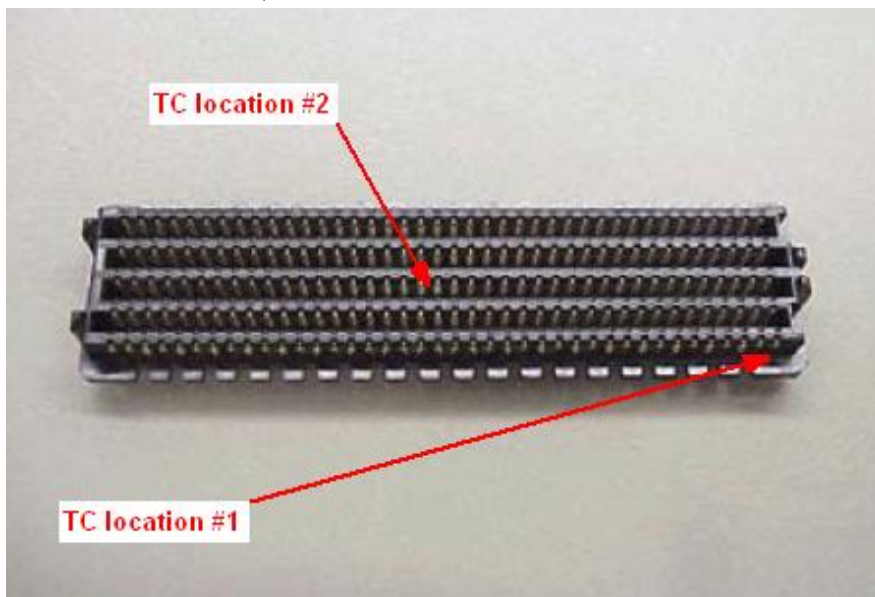

Fig. 6. Top side reference of thermocouple locations for reflow profiling. 做回流条件时热电偶放置参考位置。
- The importance of properly profiling the fully populated printed circuit assembly cannot be overstated. The reflow process that forms the solder joint is sometimes overshadowed by other processes but is critical to ensuring the solder charge reaches proper reflow conditions. Certain components can be sensitive to time and temperature, so both variables must be controlled and a thermal profile must be performed prior to processing or production. Thermocouples should be placed as close to the solder charge as possible (**underneath the part**) in the center and on the outside edge (see **Fig. 6**). 不管怎样强调正确测量回流条件的重要性都不算过份。有时回流过程重要性被其它制程所影响, 但是保证 Solder Charge 达到适当的回流条件是极其重要的。一些器件对于温度和时间特别敏感, 因此在回流和生产前这两个变量必须受控制和做出温度曲线。热电偶探头应放置在连接器下方中心和边缘并尽量接近 Solder Charge。 (如 Fig. 6 所示)